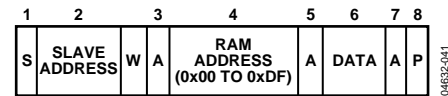

Figure 44. Single Byte Write to RAM
- To write a single byte of data to RAM. In this case, the command byte is the RAM addresses from 0x00 to 0xDF and the only data byte is the actual data, as shown in Figure 44.